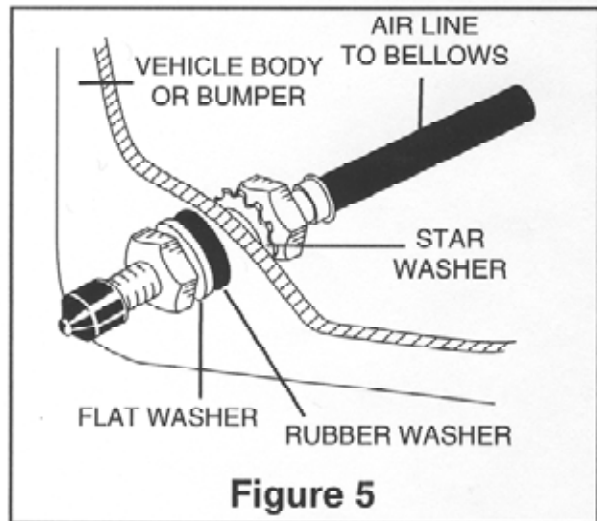

Figure 5
- J. Drill a 5/16" hole for inflation valve and mount as in illustration (Rubber washer is for outside weather seal) (Figure 5).
- G. Drill 5/16" hole for inflating valves and mount as illustrated (Rubber washer is for outside weather seal - Figure 5).